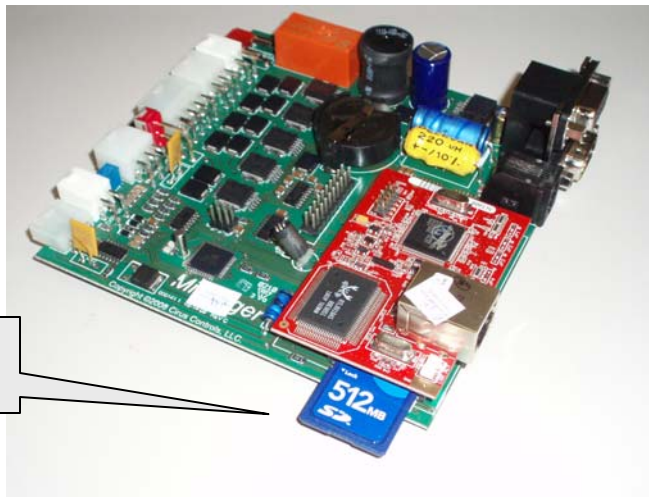

Figure 2.1
- 1.) Locate the Rabbit core, this is located on the end of the circuit board, it is the side that has the Ethernet jack. The SD card socket is beneath the core and can be seen from the edge of the circuit board (Figure 2.1)
- 2.) Make sure the “Locked” tab on the SD card is not in the locked position. Next, with the gold tabs facing downward (figure 2.1) gently slide in the SD card into the socket.